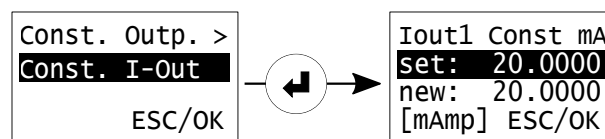

Figure 6.6: Setting a constant current output.
5. **Changing the value of the constant output:** in case you chose the **Const. Outp.** mode, you can manually change the value of the constant current output by moving the cursor to the second display line **Const. I-Out**, clicking <ENTER>, and entering the desired value followed by clicking **OK** (see Figure 6.6).